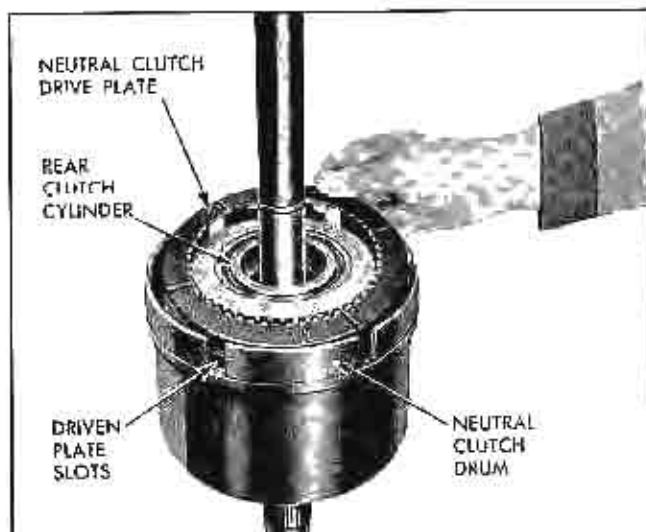

Fig. 96 Installing Neutral Clutch Plates
25. Install neutral clutch drum on rear unit with driven clutch plate lug slots up (Fig. 96).
26. Apply Hydra-Matic oil to five clutch drive plates (composition) and four driven plates (steel) (Fig. 96). Install plates alternately using a release spring between steel plates. Start with composition plate and release spring then steel plate, etc. and end with composition plate and spring.
29. Pilot neutral clutch piston into case center support with notch in edge of piston aligned with lock screw hole in side of case center support (Fig. 96).